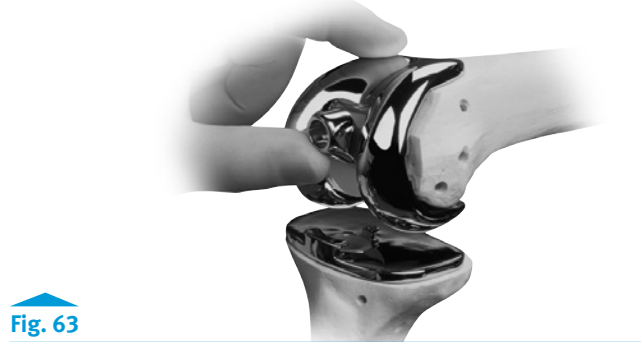

Fig. 63
- Rotate the Hinge Post anteriorly until it contacts the stop on the Polyethylene Box Insert (Fig. 63).